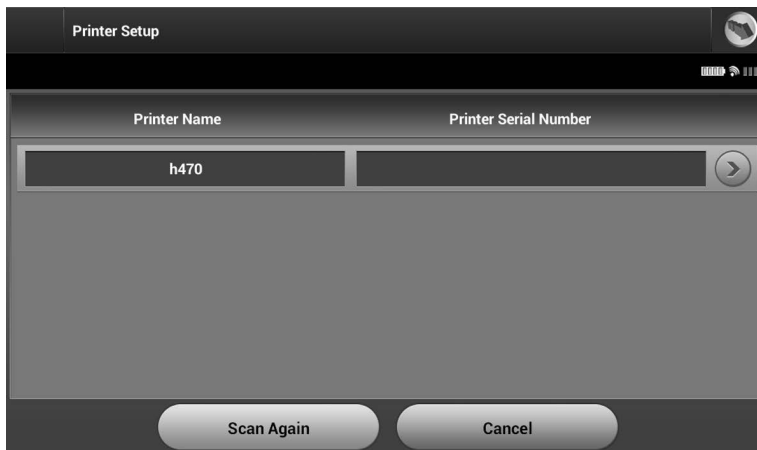

Figure 10: *Printer Selection screen*
3. Select the printer of choice (Figure 10). If no printers are found, a window will appear stating that there are no printers. Select the Scan Again button or the Cancel button to return to the Programmer Settings screen. If a printer was selected during another session, the Printer Setup screen is displayed.
4. Once the scan is complete, the Printer Selection screen appears (Figure 10).